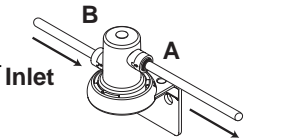

Figure 4
Hold the filter head/bracket away from the wall, press other end of tubing into outlet side as indicated by arrow on Filter Head/Bracket. (See Figure 4, A.)
7. Take the remaining section of tubing, slide the compression hex nut and 3/8" ferrule (tapered end away from compression hex nut) onto the tubing and put in the tube insert (see Figure 5). Fasten this assembly onto 3/8" cold water supply outlet. Do not overtighten (see Figure 6). Overtightening will cause tubing to separate from fitting. Connect other end to the inlet side as indicated by the arrow on Filter Head/Bracket (see Figure 4, B).